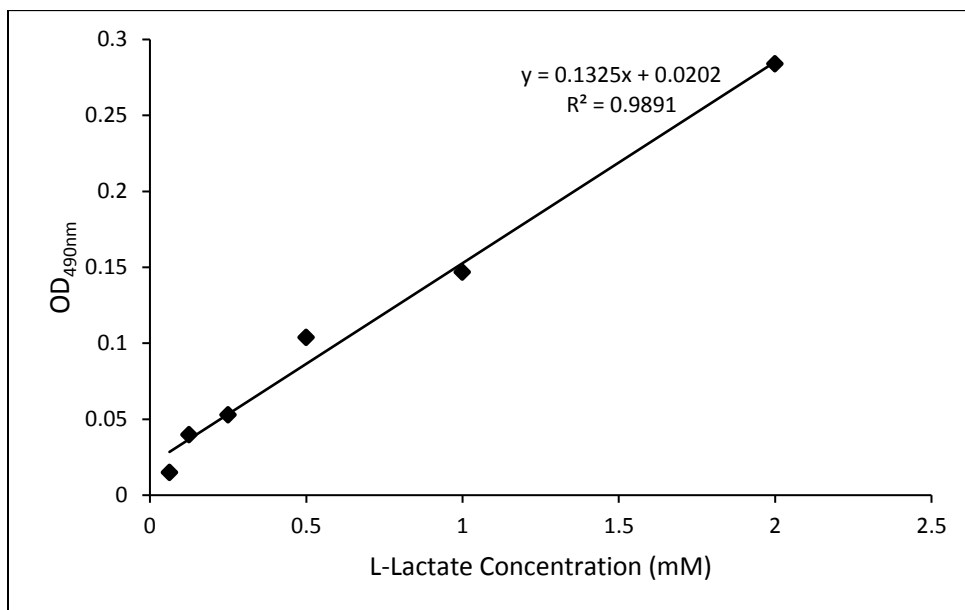

Figure 1. An example standard curve generated using the L-Lactate Assay.
L-Lactate Assay is applied to serially diluted L-Lactate Standards with concentrations ranging from 0.0625 to 2 mM and is used to generate a standard curve (Figure 1).
2. Make a standard curve (shown in Figure 1) using the absolute $\text{OD}_{490\text{nm}}$ values of the L-Lactate standard by plotting absolute $\text{OD}_{490\text{nm}}$ as a function of L-Lactate concentration. Determine the equation and R^2 value of the trend line.